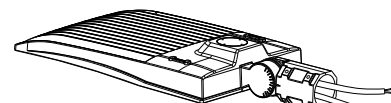

Figure 2
Step 2: Install the bracket on the fixture. (Figure 2)